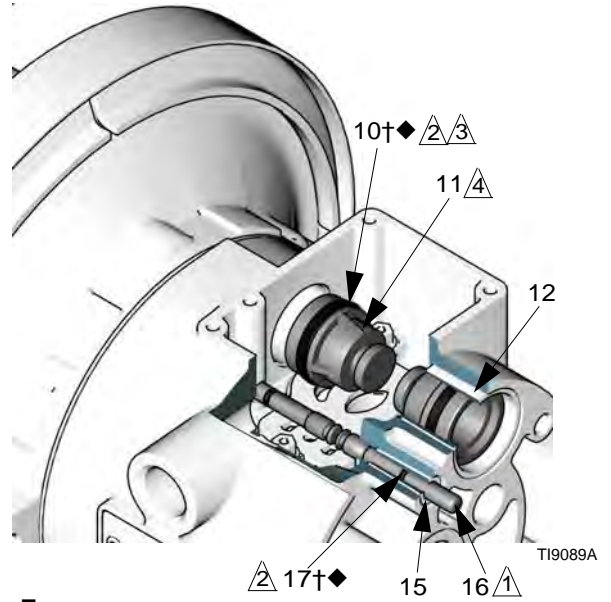

FIG. 7
4. Pull the two actuator pistons (11) out of the bearings (12). Remove the u-cup packings (10) from the pistons. Pull the pilot pins (16) out of the bearings (15). Remove the o-rings (17) from the pilot pins. See FIG. 7.
6. Inspect the bearings (12, 15) in place. See FIG. 7. The bearings are tapered and, if damaged, must be removed from the outside. This requires disassembly of the fluid section. See page 26.
4. Install an o-ring (17†◆) on each pilot pin (16). Grease the pins and o-rings. Insert the pins into the bearings (15), **narrow** end first. See FIG. 7.
5. Install a u-cup packing (10†◆) on each actuator piston (11), so the lips of the packings face the **narrow** end of the pistons. See FIG. 7.
6. Lubricate the u-cup packings (10†◆) and actuator pistons (11). Insert the actuator pistons in the bearings (12), **wide** end first. Leave the narrow end of the pistons exposed. See FIG. 7.